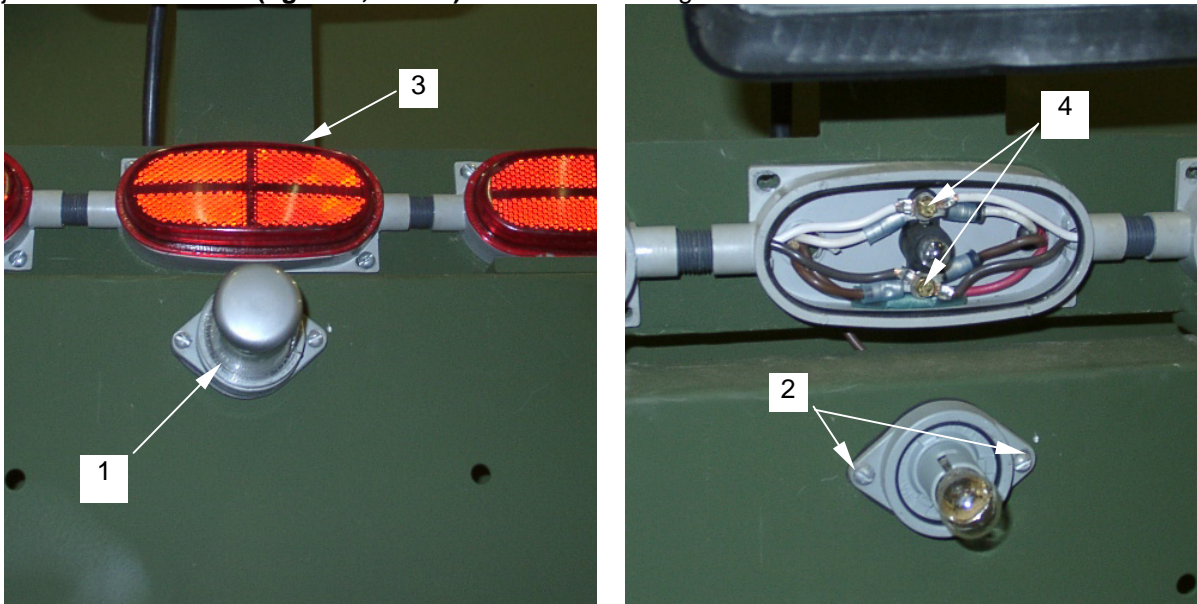

Figure 6. Marker Light
- a. Remove lens cover (**figure 6, item 1**) from marker light.
- b. Loosen and remove mounting screws (**figure 6, item 2**) and nuts.
- c. Remove lens cover (**figure 6, item 3**) from middle trailer light.
- d. Tag and disconnect marker light wiring (**figure 6, item 4**).
- g. Fasten fixture in place with screws (**figure 6, item 2**) and nuts.
- i. Install lens cover (**figure 6, item 3**) on marker light.
- j. Install lens cover (**figure 6, item 3**) on middle trailer light.